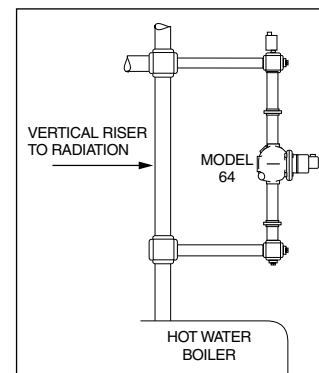

Figure 3
**Figure 3.** If there is no tapping available on the boiler, connect both the upper and lower equalizing pipe into the vertical riser going to the radiation or to the compression tank. **IMPORTANT:** The horizontal equalizing pipe should not be above the horizontal run going to the radiation. If it is, an air pocket will be created and a vent or bleed will have to be installed.